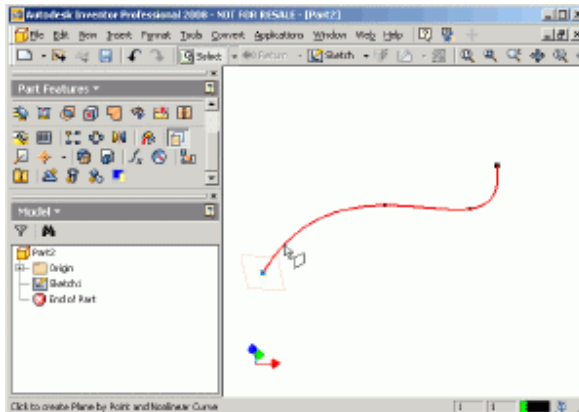

Figure 15: Select endpoint, then line/curve
2. Select the **Workplane** command. Pick the endpoint of the path created in step one, where you plan to place your profile sketch. After picking the endpoint, select the path line. The workplane is created. Be sure to flip the normal of the workplane for proper sketch orientation. (Figures 15, 16)